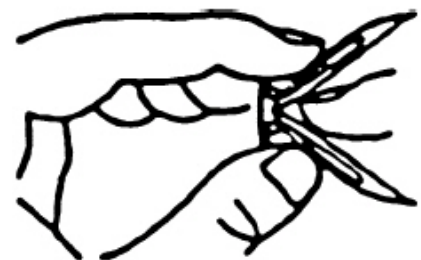

Figure 14 – Folding Anchor
2. Fold wall anchor as shown in Figure 14.